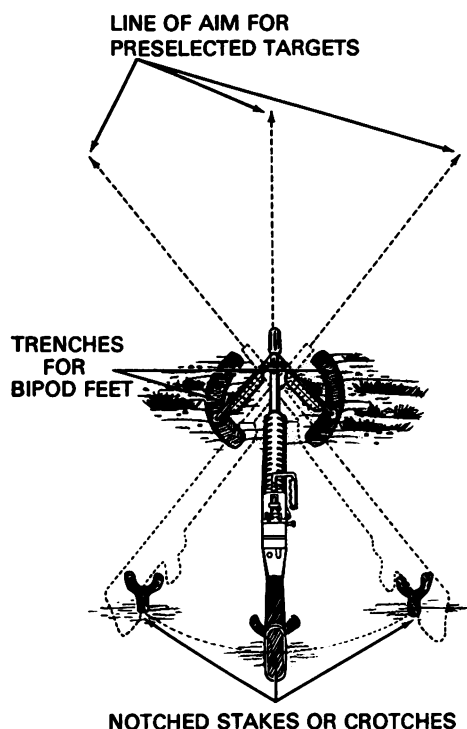

Figure 2.
2. Using the notched-stake or tree-crotch technique (figure 2), use the following procedure: